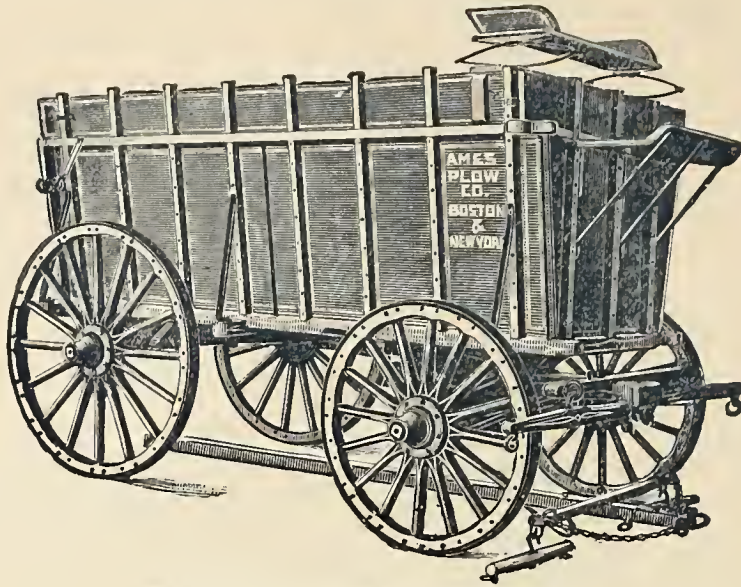

Fig. B 572.—Manure Wagon.
**The Manure Wagon.**—The wagon shown at *Fig. B 572* is our HEAVY MANURE WAGON, which is ample for the ordinary demands of those who use this style of wagon. The extra heavy wagon is built to order, but it is only needed for hauling manure out from cities where there are paved streets.